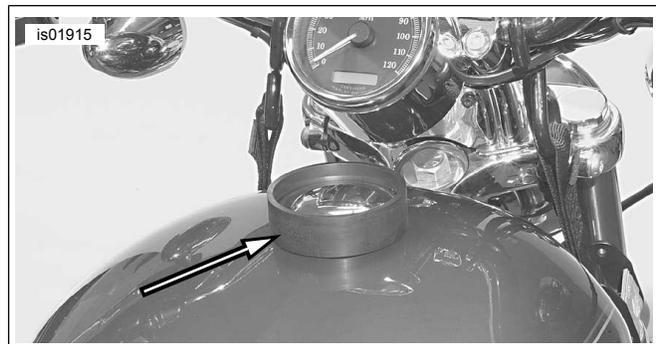

Figure 4. Trim Panel Positioning Tool HD-47114
2. See Figure 4. Place Console Alignment Ring HD-47114 over the fuel filler cap